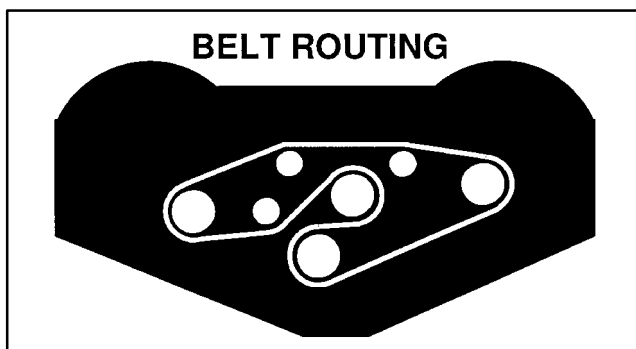

Figure 32
5. Route new belt around spindle pulleys and idler pulley assembly, as shown in figure 32.